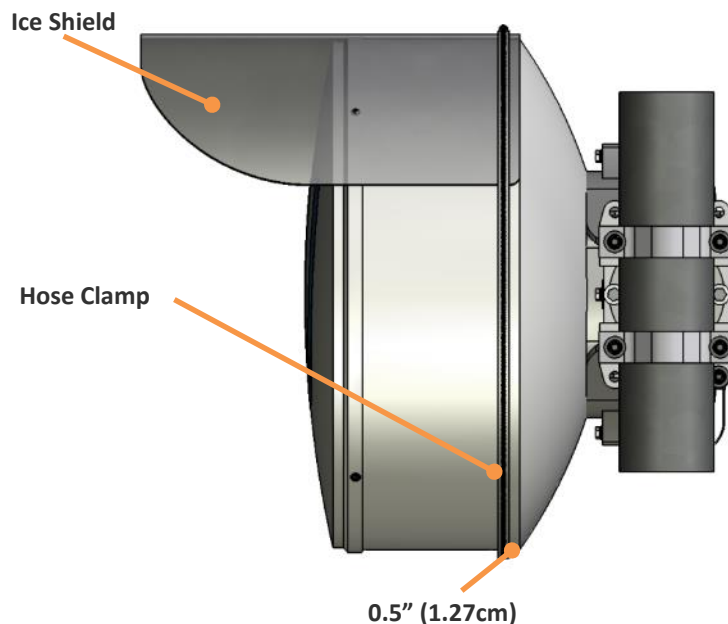

Figure 3-5 Ice Shield Installation
2. Attach Ice Shield to antenna using the Hose Clamp as shown in Figure 3-5. Space the Hose Clamp 0.5”(1.27cm) from antenna edge.